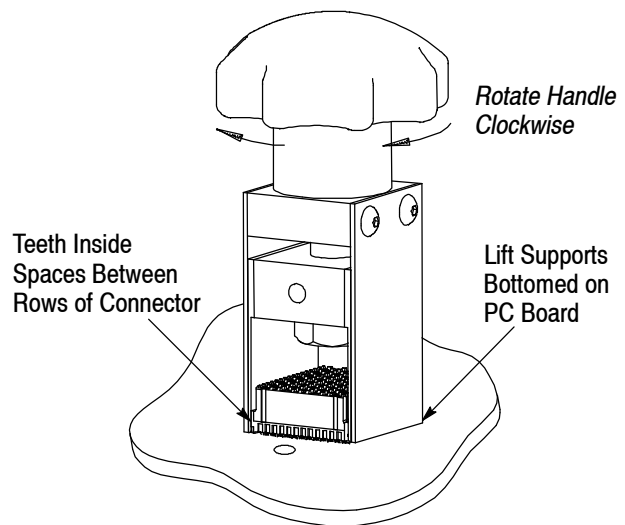

Figure 3
2. Position the tool over the connector so that the teeth of the grabber plate align with the spaces between the rows of the connector. See Figure 3.